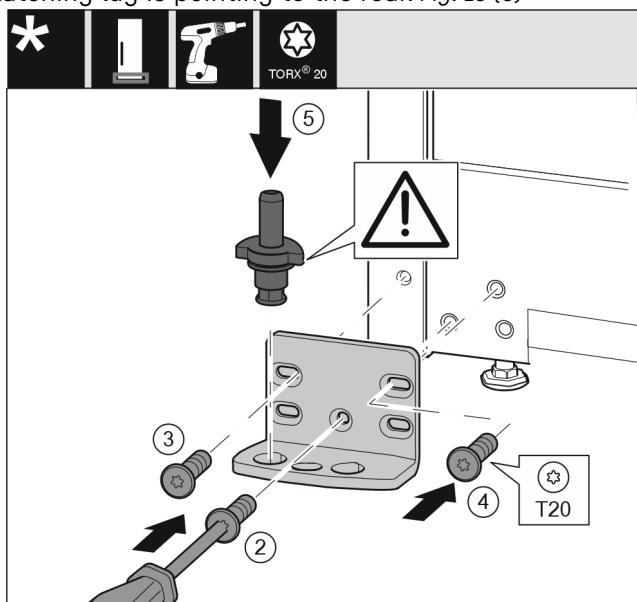

Fig. 17
- ▶ Place the bearing bracket on the other side and screw it in using the T20 screwdriver. Start with screw 2 at the bottom in the middle. *Fig. 17 (2)*
- ▶ Screw in screws 3 and 4. *Fig. 17 (3,4)*
- ▶ Insert the bearing pin completely. Make sure that the latching lug is pointing to the rear. *Fig. 17 (5)*